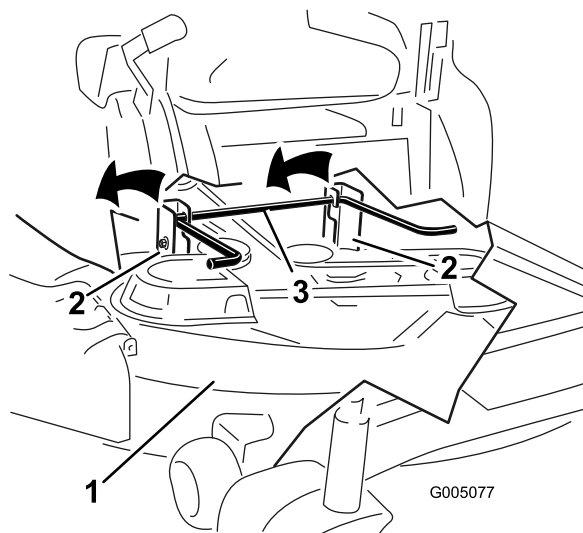

Figure 64
7. Lift the mower deck and hanger brackets clear of the rear lift rod and lower the mower carefully to the ground (Figure 64).
- Lift the rear of the mower deck and guide the hanger brackets over the rear lift rod (Figure 64).